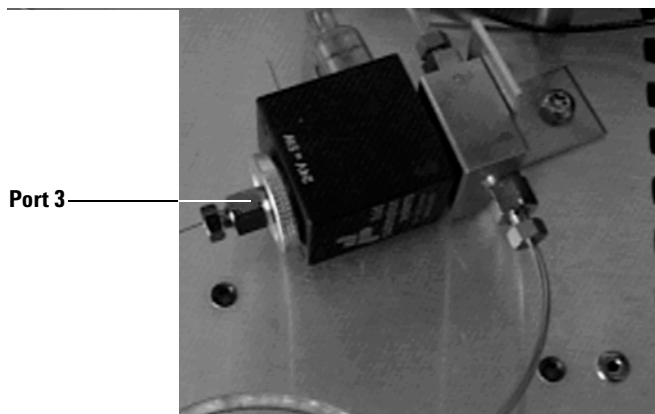

Figure 7 Adjusting port 3 of the SVE valve assembly
- 5 Remove the male fitting and the associated front and back ferrules from port 3 of the SVE valve assembly. Cut a 0.5-m section of the 2.0 m \times 50 μ m bleed restrictor column. (see Figure 7).
- 6 Connect the bleed restrictor to port 3 of the SVE valve by sliding the male fitting and the vespel/graphite ferrule onto the end of the column (see Figure 7).
- 8 Position the SVE valve assembly at the upper right corner oven top surface as shown in Figure 7 and mount it using the M4 \times 0.7 machine screw.